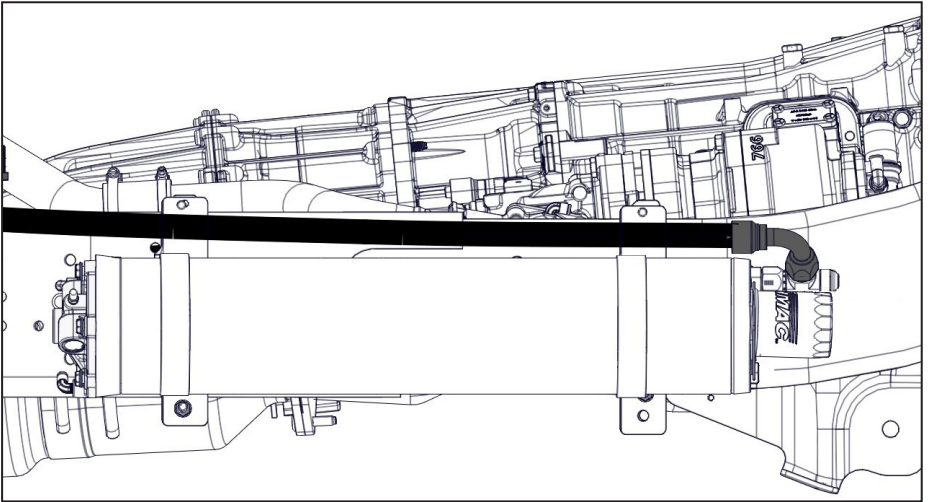

Figure 56 — Install discharge hose
- ☐ Connect the 90° fitting on the longer 3/4 in discharge hose to the fitting on the front of the AOST and route it toward the rear of the vehicle (Figure 56).